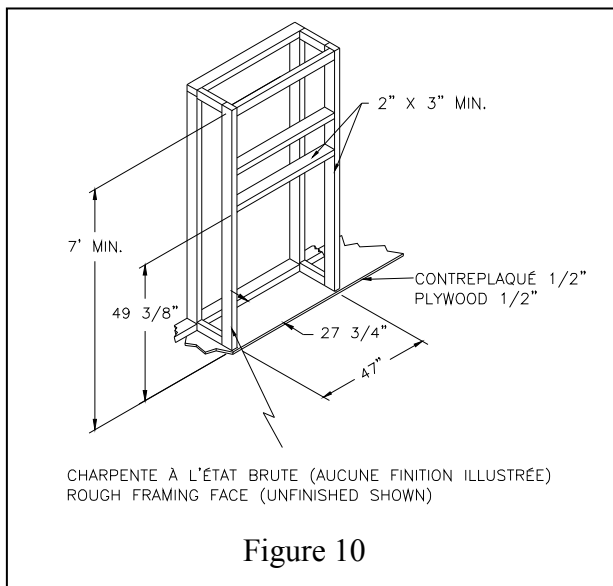

Figure 10
C. Frame the fireplace with vertical studs at the sides of the fireplace running from floor to ceiling (see figure 10). If combustible facing is to be used, position the studs back, from the front edge of the fireplace the thickness of the facing material so that the facing can be installed flush with the fireplace facing. Frame headers between the vertical studs only as follows: